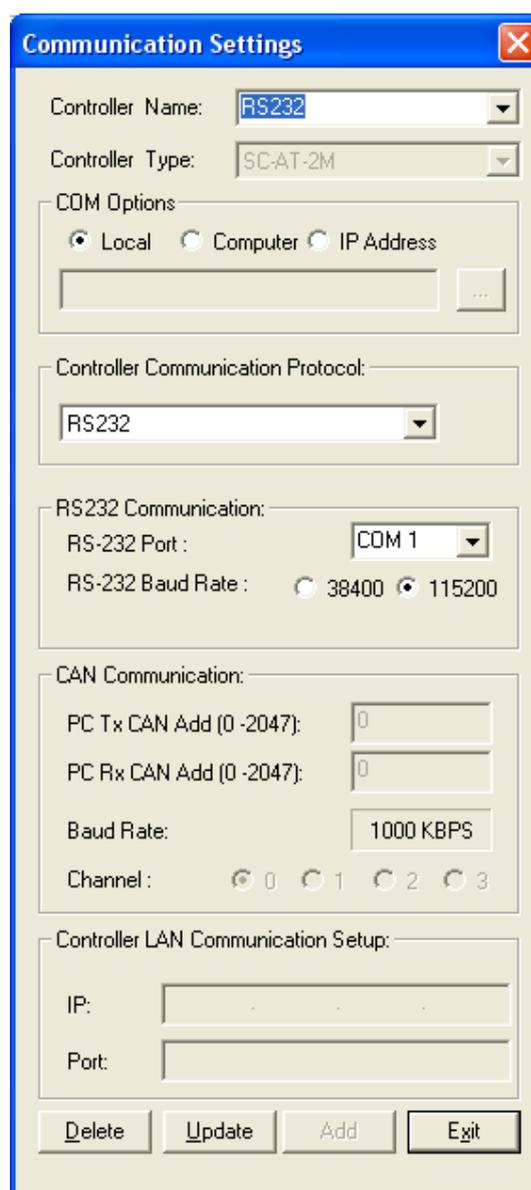

Figure 3: Communication Settings Dialog Box
5. On "Communication" menu click "Setup Communication". The "Communication Settings" dialog box appears, see Figure 3.